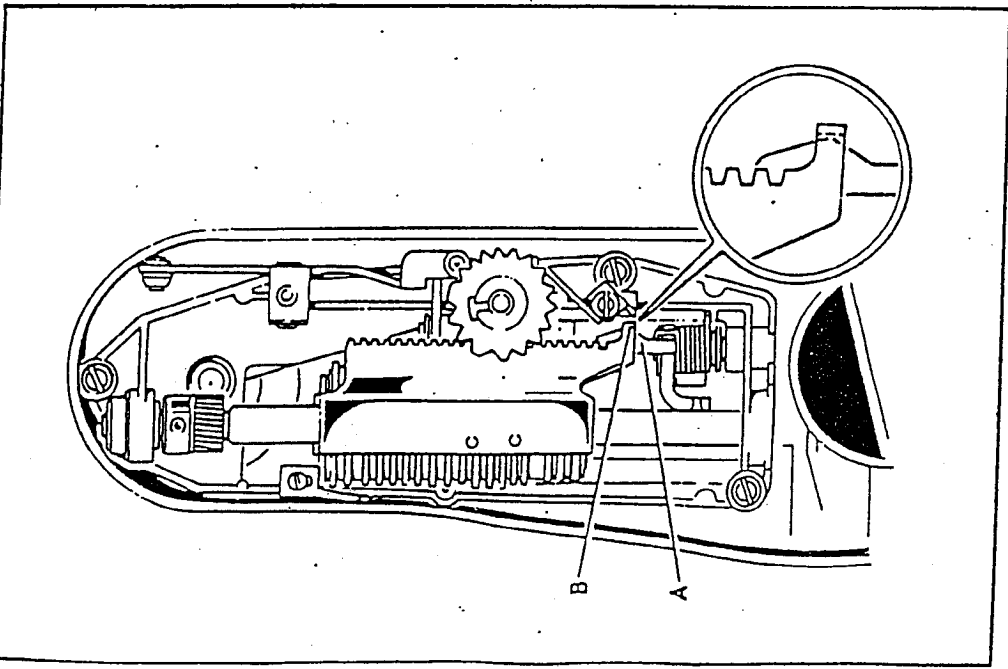
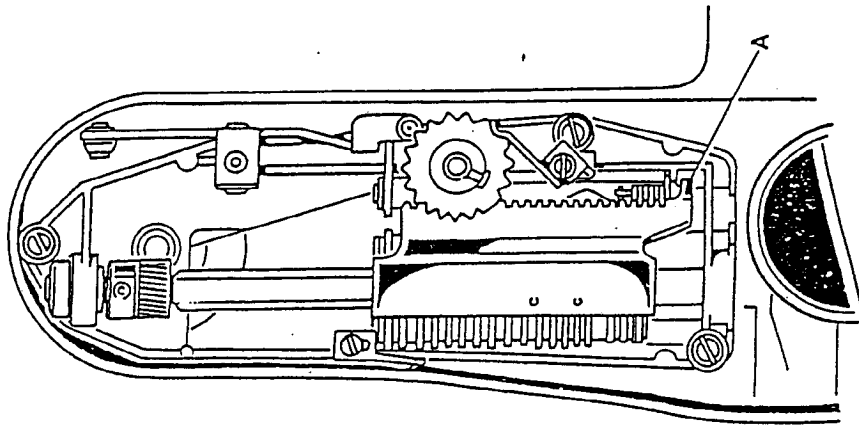

Fig. 4
Fig. 9
- Set the selector knob on position 3 of the button-hole (straight reverse sewing) (see fig. 4 A-B);
- if this is not the case, by turning the selector knob, lower rack A (fig. 9) and, by means of pliers, slightly bend tail B of the rack towards contact finger A (fig. 4), if the distance of the eleven holes is less than 7 mm, and vice versa if said distance exceeds 13 mm.